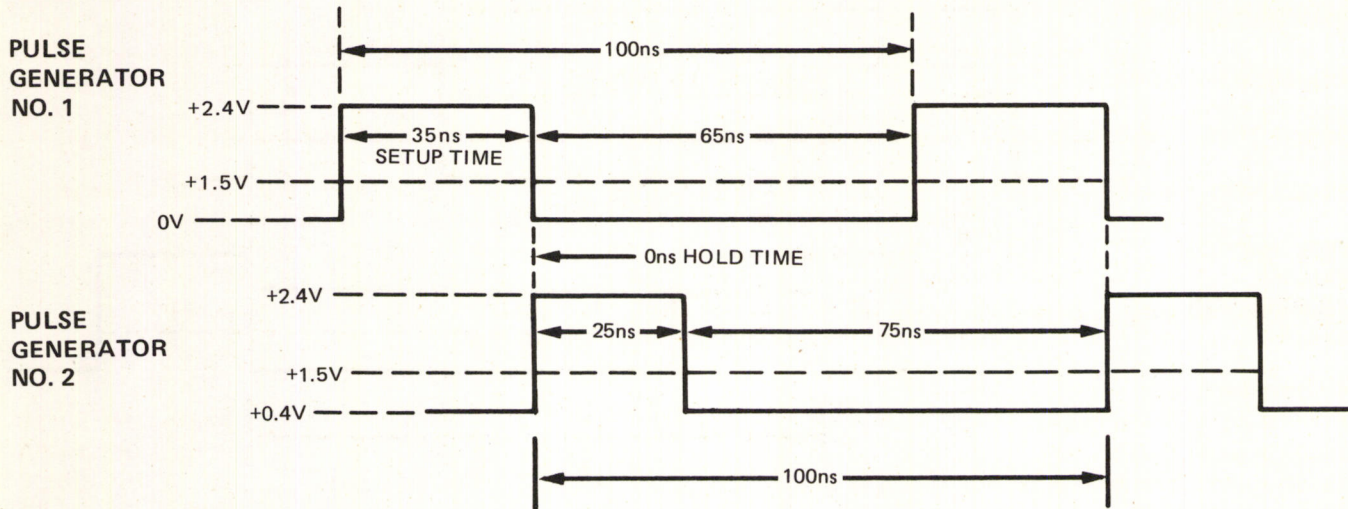

Figure 4-3. Probe Minimum Swing (Minimum High) Test Waveforms
g. Adjust pulse generators No. 1 and No. 2 as shown in figure 4-3. Verify that 1111 is displayed for data bits tested when input from pulse generator No. 1 is $\geq +2.4$ V.
- o. Adjust pulse generators No. 1 and No. 2 as shown in figure 4-3. Verify that qualifier condition is valid when input from pulse generator No. 1 is $\geq +2.4$ V.